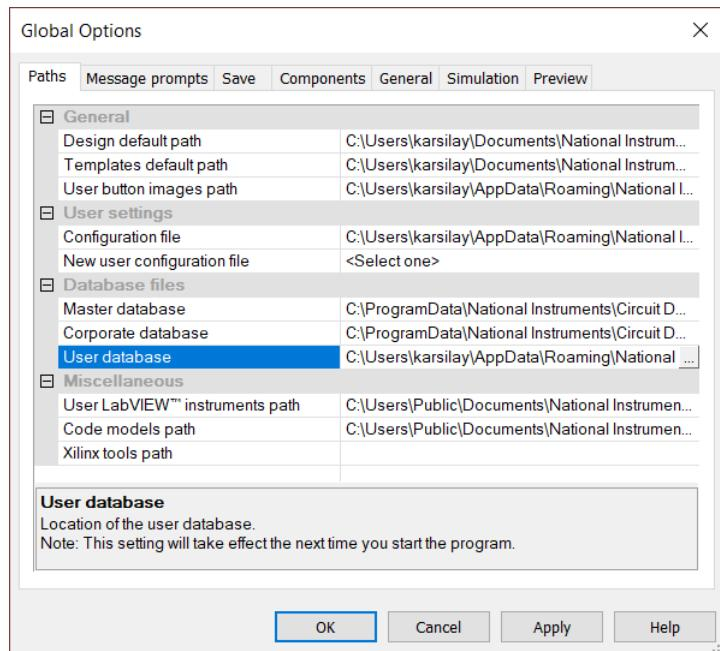

Figure 4: MultiSim global options
- In the Global Options window (see Fig.4), click on “User database”, then click on